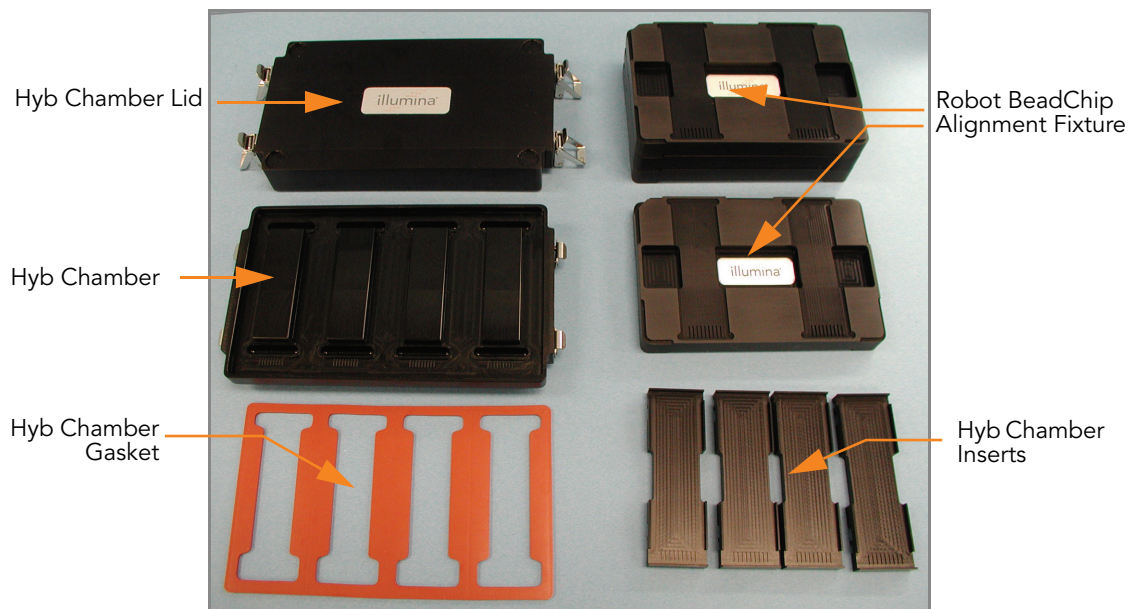

Figure 139 BeadChip Hyb Chamber Components
1. Place the following items on the bench top per 96 samples (Figure 139):
- BeadChip Hyb Chamber (1)
- Hyb Chamber Gasket (1)
- Robot BeadChip Alignment Fixtures (2)
- Hyb Chamber inserts (4)
- BeadChip Hyb Chambers (2)
- Hyb Chamber Gaskets (2)
- Robot BeadChip Alignment Fixtures (4)
- Hyb Chamber inserts (8)